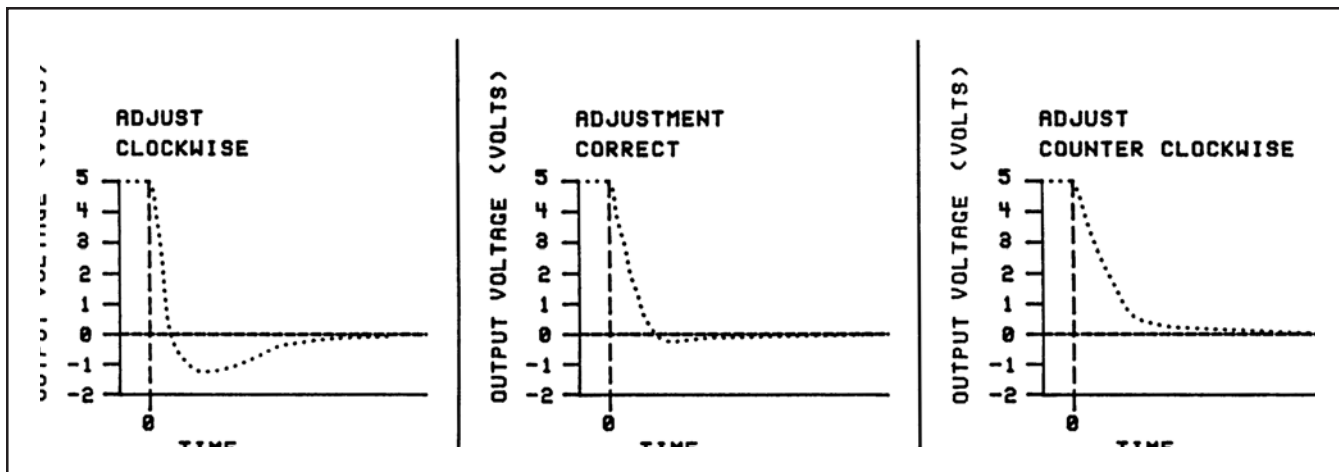

Figure 3-7 Fast Response Adjustment
- c. The behavior of the flow signal during this transition between 100% and zero percent flow indicates the adjustment required of the anticipate potentiometer. Refer to Figure 3-7.